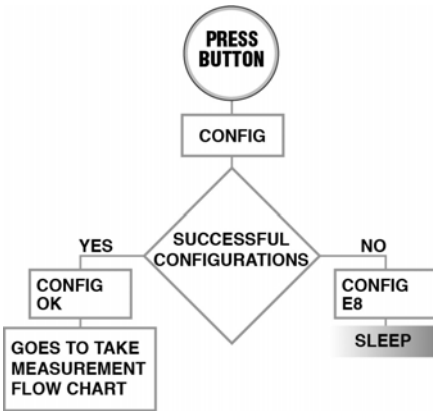

FIG. 4
4. Press and hold the Display button (A) again to configure the profile for the TLM in the Pulse software.
5. The display reads "CONFIG OK" as shown in FIG. 4, page 5 when the TLM Profile is registered with the Pulse software.
If the TLM Profile did not register with the Pulse software the error message "CONFIG E8" displays (Step 2, FIG. 4).